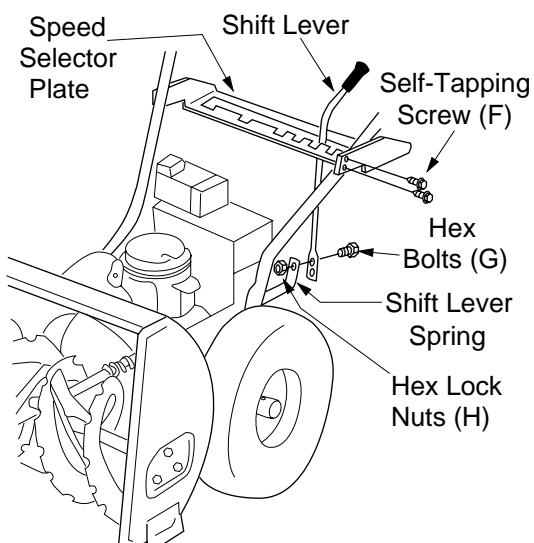

Figure 5
1. Assemble the speed selector plate to the outside of the handles as shown in Figure 5. The speed selector plate should not be assembled between the handles and the engine. Secure using four self-tapping screws (F).
**NOTE:** The bend in the lever should be towards the operator. Secure shift lever to the shift lever spring using two hex bolts (G) and hex lock nuts (H). Tighten both bolts finger tight. At this point the shift lever and shift lever spring are not against each other. As you tighten the bolts and nuts with two 7/16" wrenches they will pull together. See Figure 5.